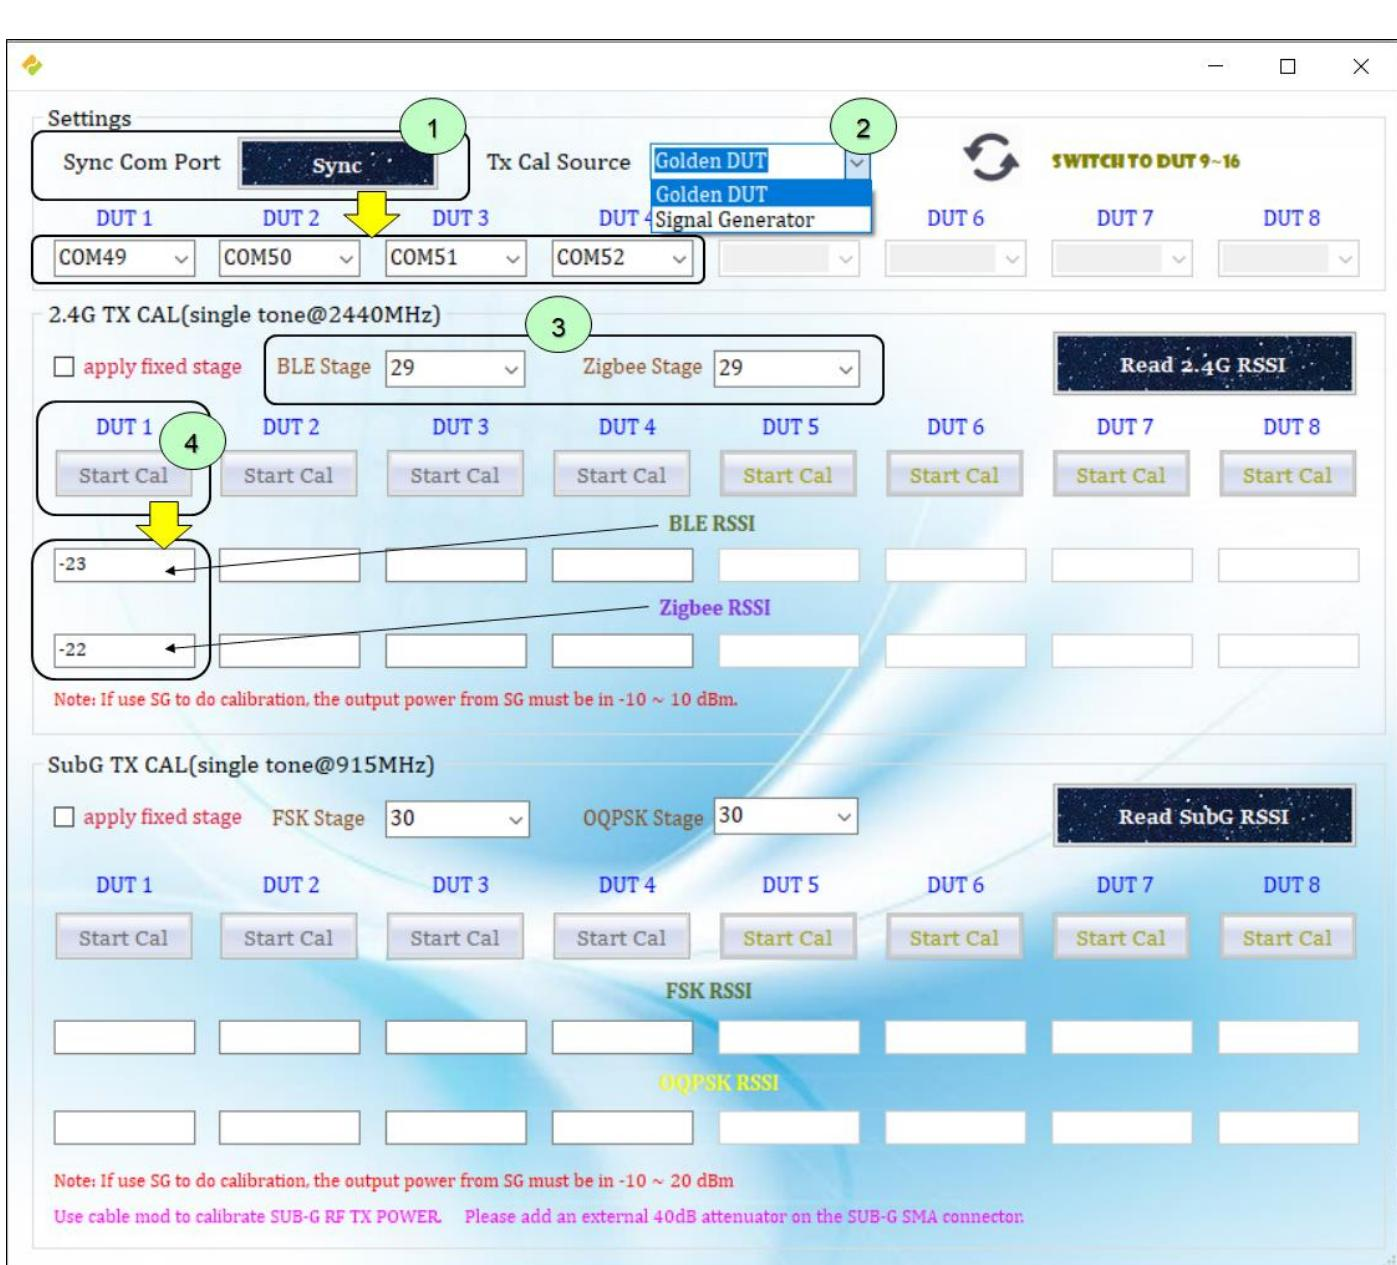

Figure 23. Power Trim Setting-2
3. Select tx calibration type for golden DUT or signal generator as shown in Figure 23.
9. In some cases, user may want to setup tx power without calibration. Select “apply fixed stage” and fill in stage value as shown in Figure 23.